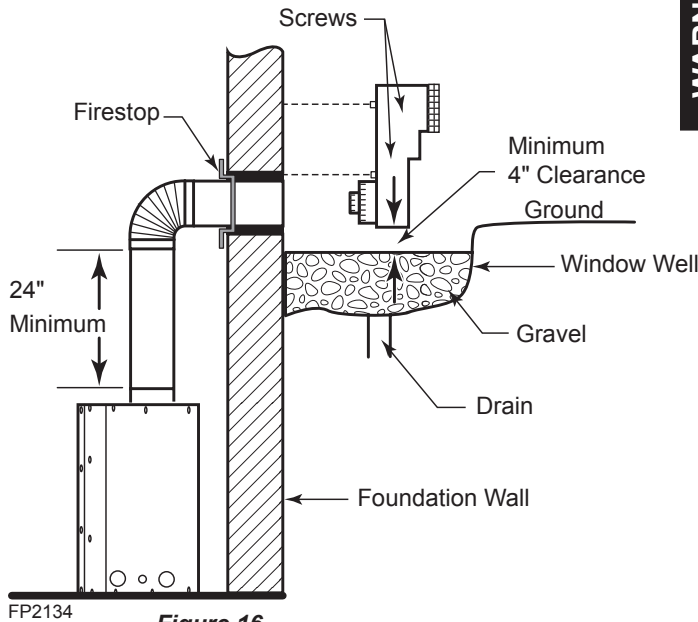

Figure 16 - Below Grade Installation
2. Remove soil to a depth of approximately 16" below base of snorkel. Install drain pipe. Install window well (not supplied). Refill hole with 12" of coarse gravel leaving a clearance of approximately 4" below snorkel. *Figure 16*
7. Level the soil so as to maintain a 4" clearance below snorkel. *Figure 16*